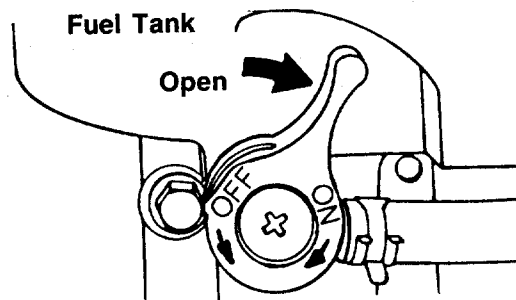

FIGURE 18.
2. Models 444R, 446R, 445R and 456R only: Open fuel shut-off valve. See figure 18.